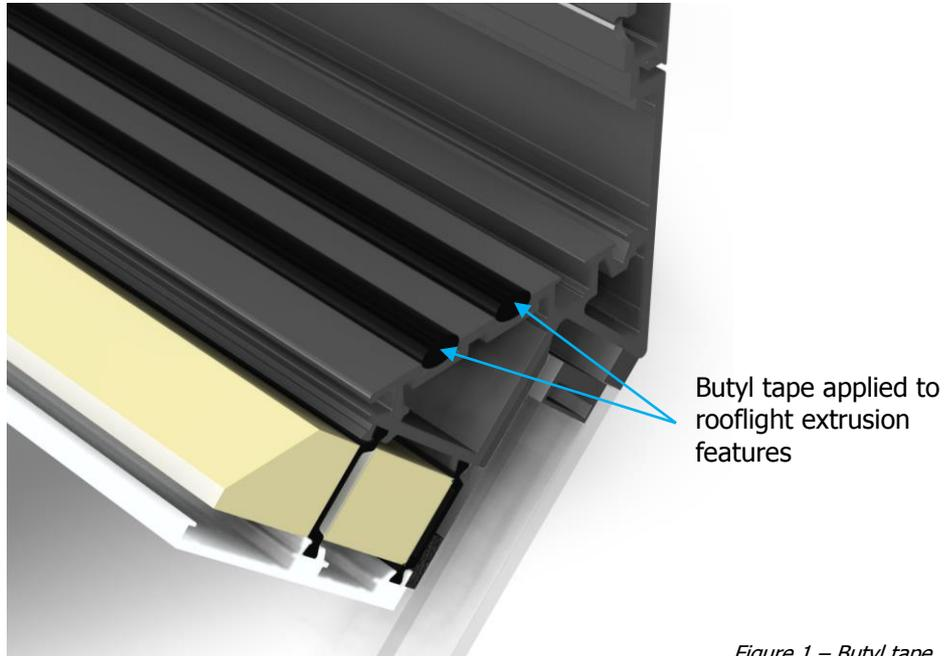

Figure 1 – Butyl tape
1. Place two runs of butyl tape around the base of the Pyramid as shown in *Figure 1*, and place the Pyramid onto your kerb ensuring that it is centred, i.e. drip flashing overhanging equally round all sides.